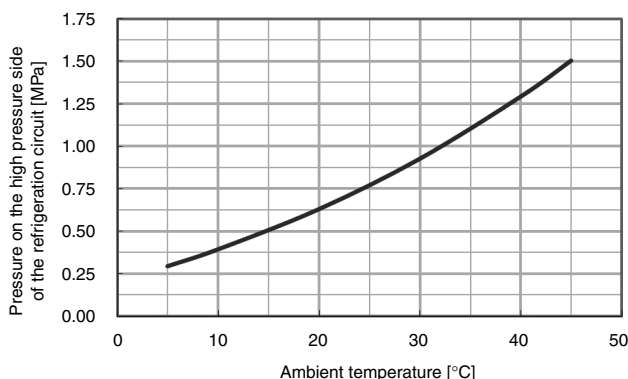

Fig. 4-12 Ambient temperature and refrigerant circuit pressure
- (1) Measure the ambient temperature (room temperature).
- (2) Check the pressure shown for “Ph: Refrigerant circuit pressure on the high pressure side” in the “Check Monitor Menu” of the Thermo-Chiller.
- (3) If the measured point is lower than the values shown in the graph in “Fig. 4-12: Ambient temperature and refrigerant circuit pressure”, it means there is refrigerant leakage caused.